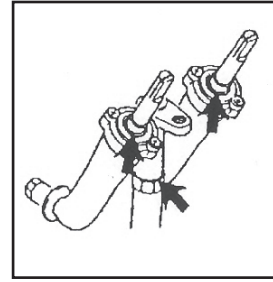

Fig. 2
4. Brush the soap solution on each connection. (Fig. 2)